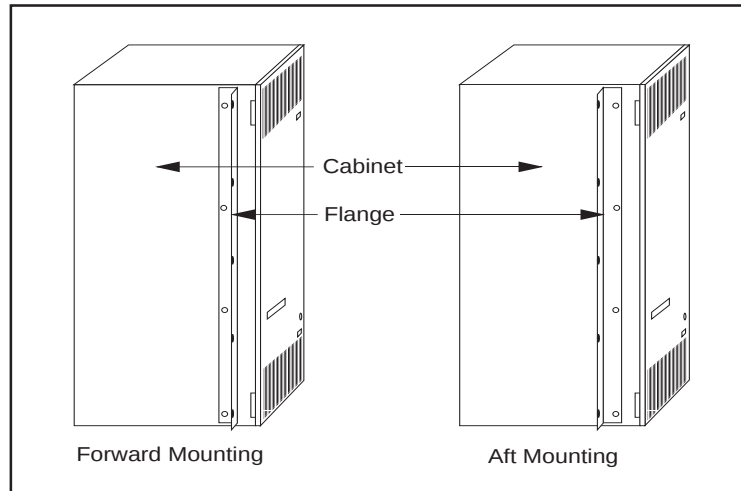

Figure 2-1
1. Attach the mounting flanges to the cabinet sides with the supplied hardware. Use the appropriate set of mounting holes in the flanges. (See **Figure 2-1**)